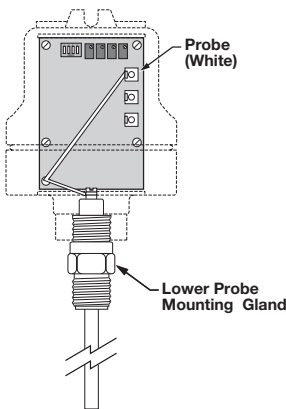

Figure 9
2. Tighten securely, being certain that the wrench is applied **ONLY** to the mounting gland. Refer to Figure 9.
3. Screw the amplifier housing onto the probe. Refer to Figure 9.